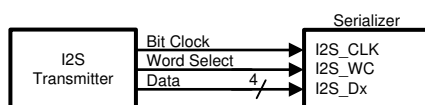
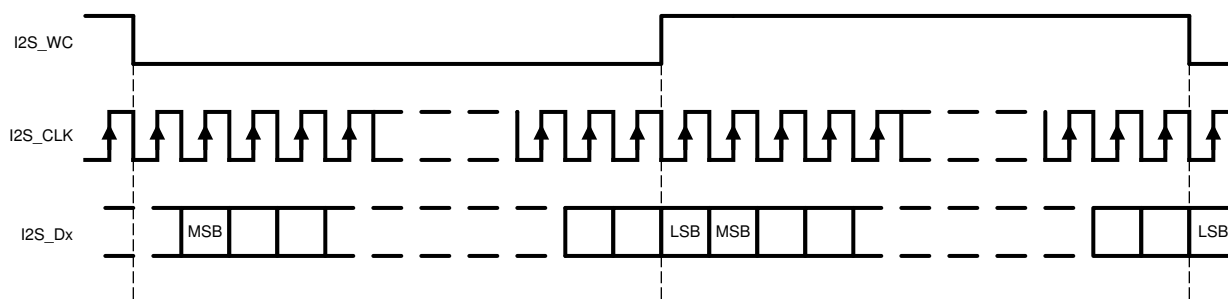

Figure 8-7. I²S Connection Diagram
Figure 8-8. I2S Frame Timing Diagram
The DS90UH941AS-Q1 serializer features six I²S input pins that, when paired with a compatible deserializer, supports 7.1 High-Definition (HD) Surround Sound audio applications. The bit clock (I2S_CLK) supports frequencies between 1 MHz and the lesser of CLK/2 or 13 MHz. Four I²S data inputs transport two channels of I²S-formatted digital audio each, with each channel delineated by the word select (I2S_WC) input. Refer to Figure 8-7 and Figure 8-8 for I2S connection diagram and timing information.